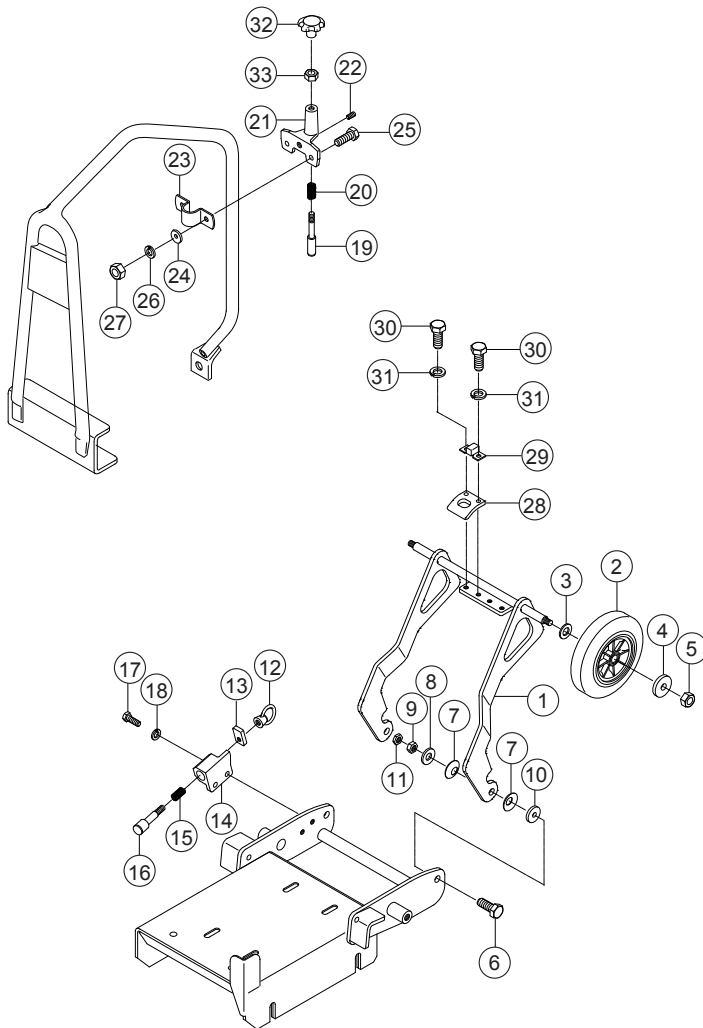
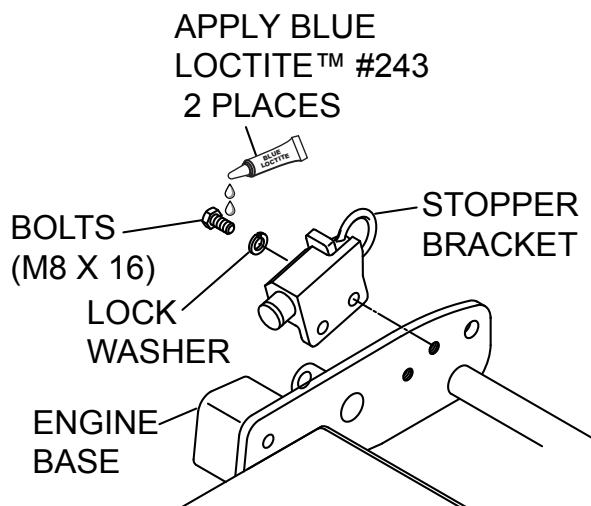

Figure 1. WHL64 Kit Parts
Figure 2. Stopper Bracket Installation
Verify that all parts are accounted for. See Figure 1 and Table 1.
1. Attach the stopper bracket (item 14, Figure 1) to the right rear side of the engine base of the plate compactor, using the supplied bolts (item 17) and lock washers (item 18) as shown in Figure 2.